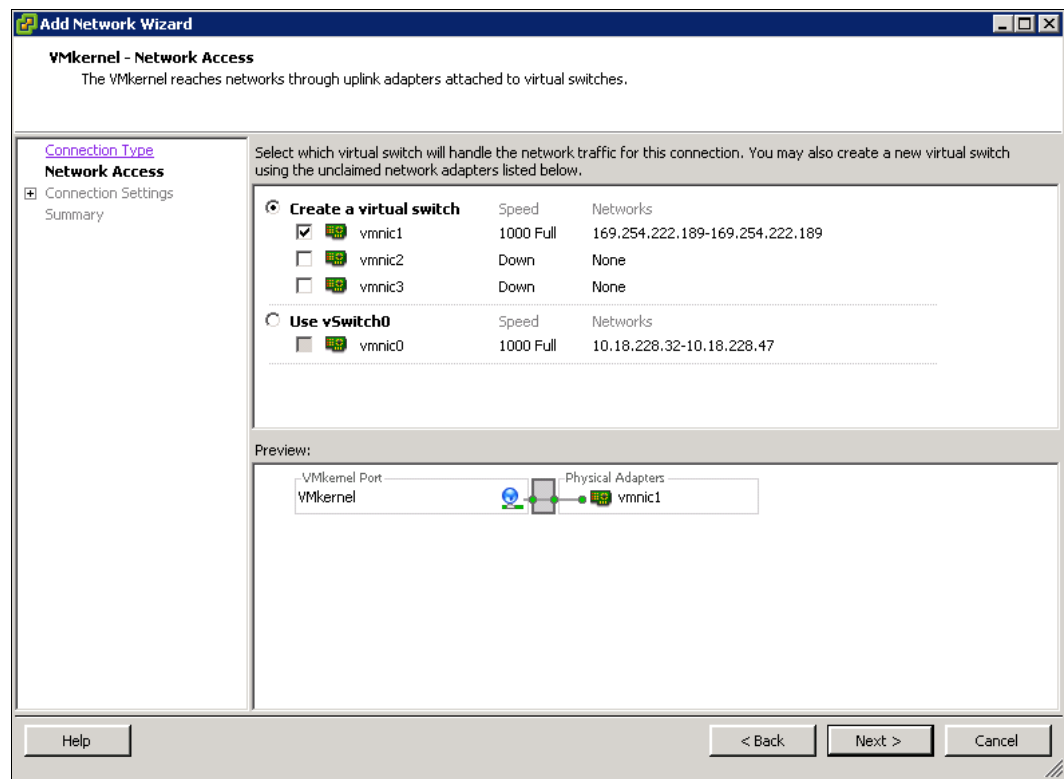

Figure 4-10 VMware: Select an iSCSI interface
3. Select one or more network interfaces that you want to use for iSCSI traffic and click **Next** (Figure 4-10).